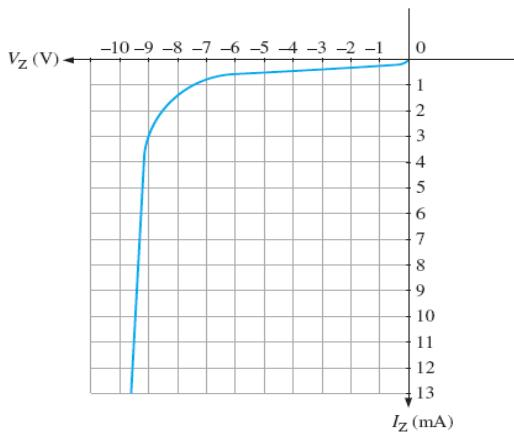

Figure 3–58
2. From the characteristic curve in Figure 3–67, what is the approximate minimum zener current (I_{ZK}) and the approximate zener voltage at I_{ZK} ?